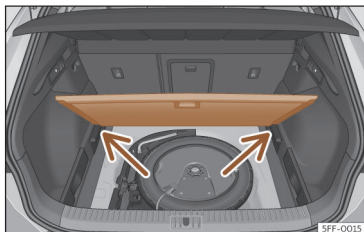

Fig. 118 Variable luggage compartment floor: inclined position.
- Rest the floor on its housings >>> **Fig. 118** (arrows).